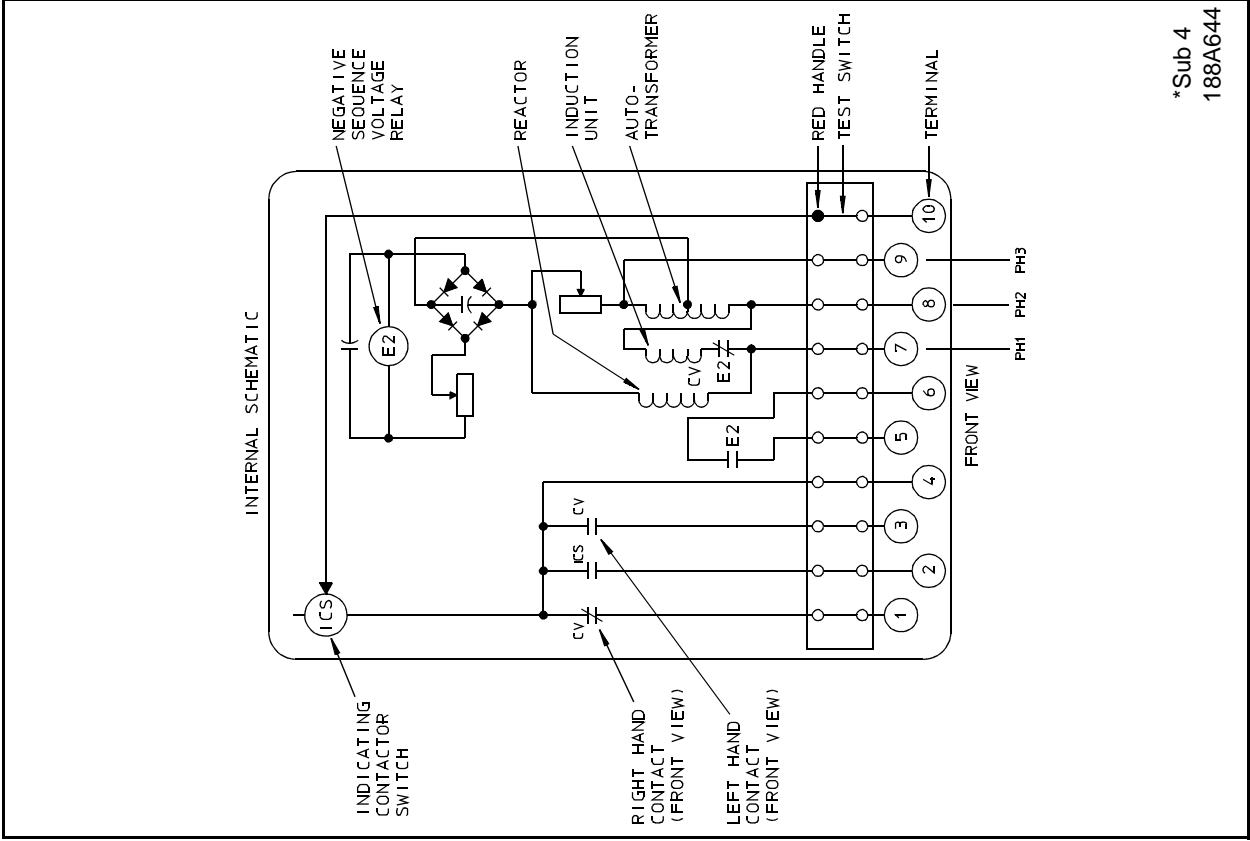

Figure 1. Internal Schematic of the Type CVQ Relay
The type CVQ relay consists of a polar unit (E) operating on negative sequence quantities, a negative sequence voltage filter, full wave bridge, a time undervoltage relay (CV), an indicating contactor switch (ICS) and a telephone relay when used. The principal component parts of the relay and their location are shown in Figure 1 (page 2).
The voltage filter consists of an auto-transformer, reactor, and resistors connected as shown in the internal schematic Figure 1 (page 2).